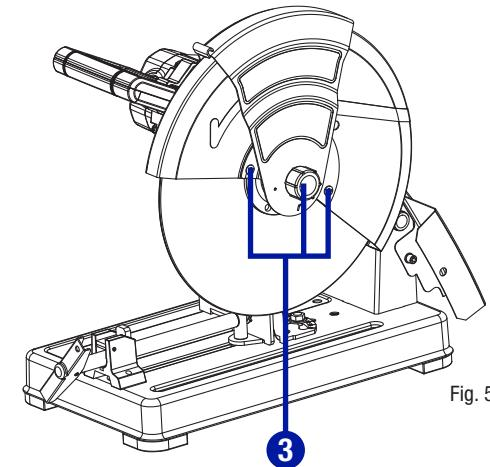

Fig. 5
The lower wheel guard should always rise and fall freely when the machine arm is lowered and raised as outlined above. If not, clean any cuttings out from around the guard mechanism (3). (Fig. 5)